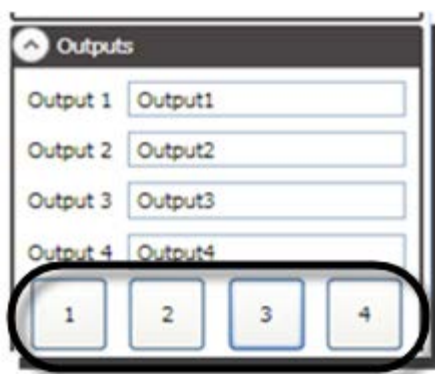

Figure 100
2. Click and hold down one of the output buttons in the **Outputs** section of the **FX Editing Pane** (Figure 100).